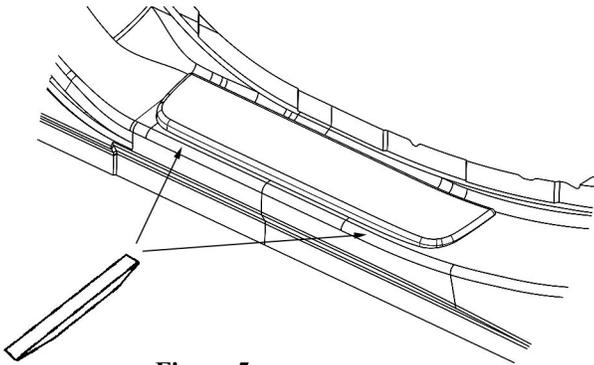

Figure 5
- a) Pry up at each clip location (2) with Nylon Trim Removal Tool. (Figure 5)